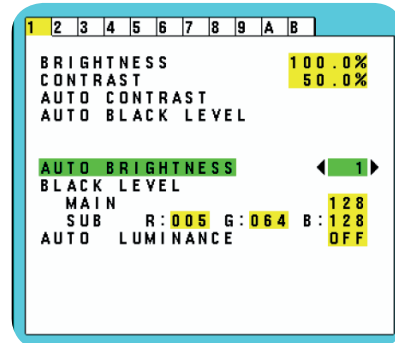
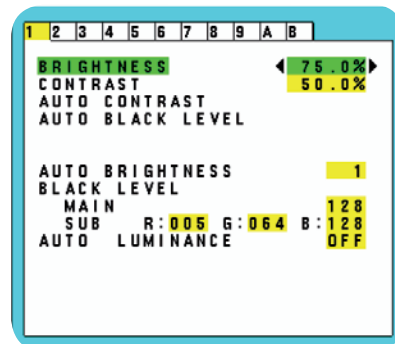

Fig. 21
Fig. 22
1. Set the BRIGHT level. This is the brightness level that the monitor will go to when the ambient light level is at its peak. Make sure the room is at its brightest when setting this level. Select "1" in the AUTO BRIGHTNESS menu (Fig. 21). Then use the front buttons to move the cursor up to the BRIGHTNESS setting. Choose the desired BRIGHTNESS level (Fig. 22).